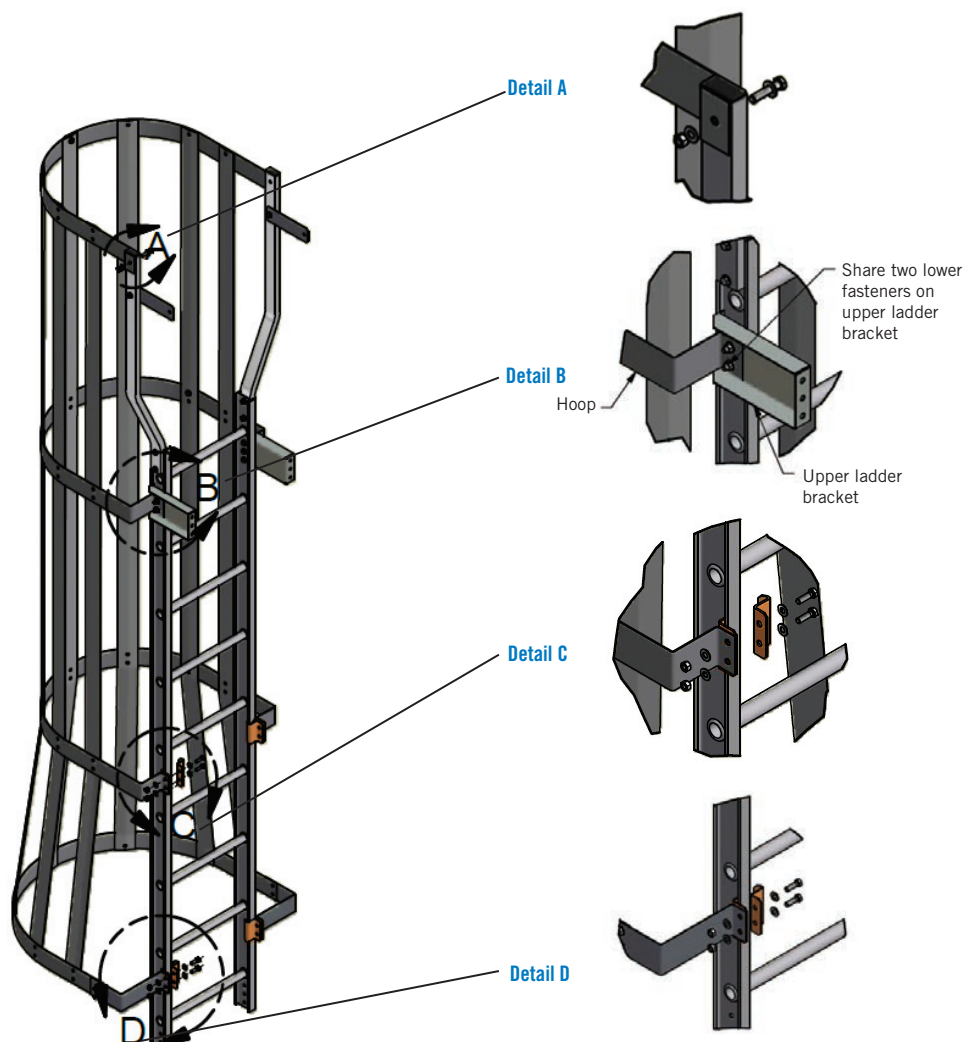

Figure 29. Safety Cage
2. Bolt the safety cage to the ladder using flatwashers and locknuts. Orient all fasteners with boltheads inside safety cage. See **Figure 29, Detail A** through **D**.